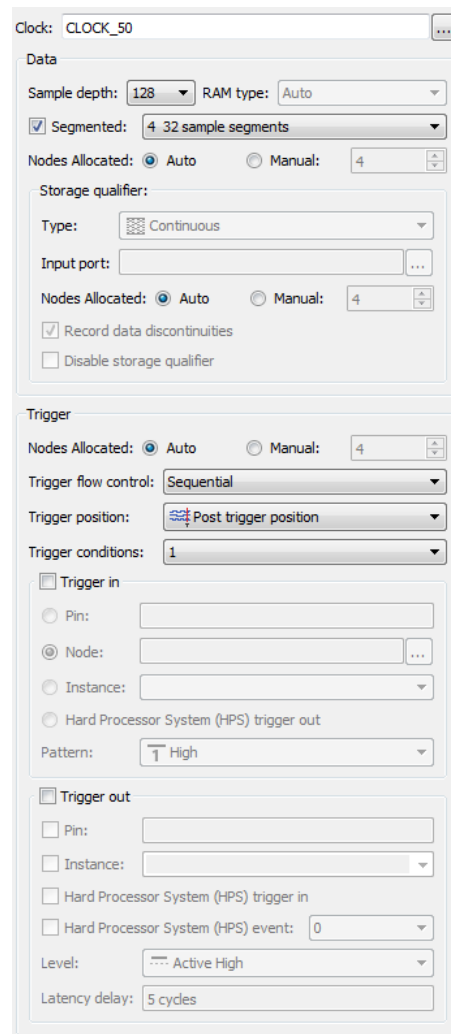

Figure 23. Select Segmented buffer acquisition mode with 4 32 sample segments.
3. In the Signal Configuration pane of the SignalTap II window, in the Data section of the pane check **Segmented**. In the dropdown menu beside Segmented, select 4 32 sample segments. This will result in a pane that looks like Figure 23.